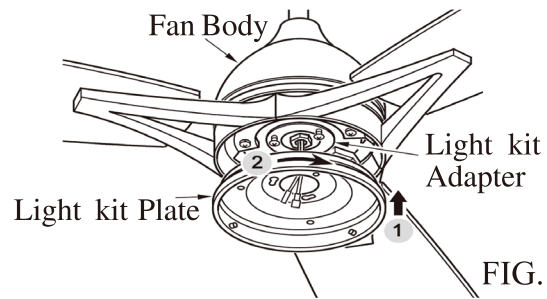

FIG.13
2. Gently pull the wire through light kit plate. Have the key hole over the loosened screws. Turn the light kit plate clockwise, and tighten the previously removed and loosened screws. (See fig 13 & 14)